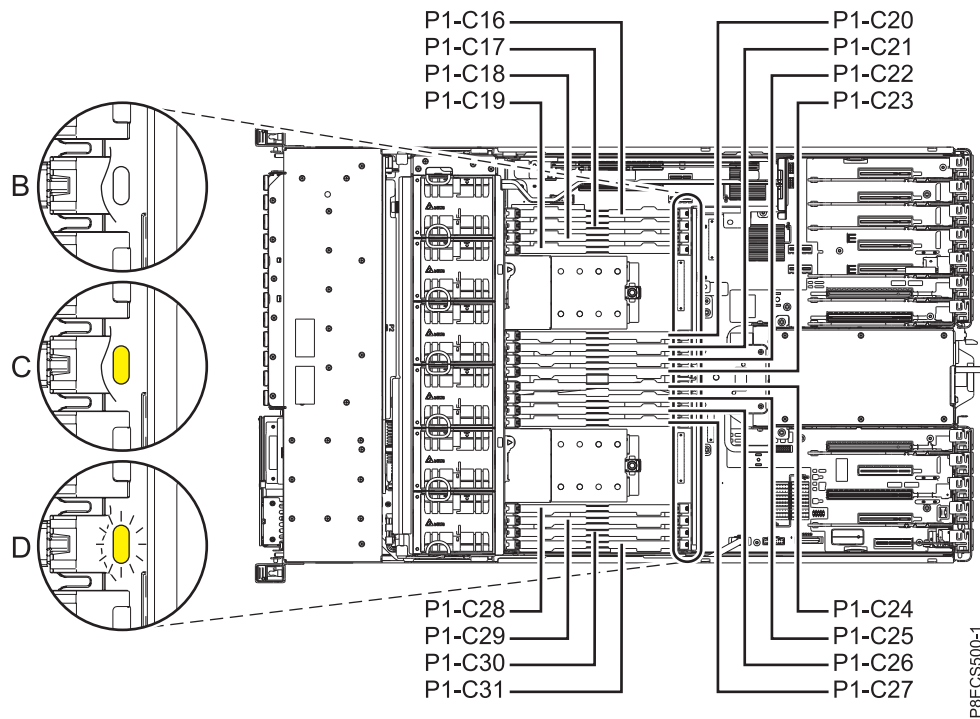

Figure 9. LEDs for a working and failed memory module
- f. Verify that the amber LED for the replaced memory module is **Off**, as shown in (B) in Figure 9 on page 15.